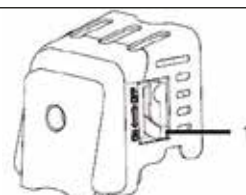

Fig.9
4. Starting a cold engine: set the choke lever to close position (Fig.9).
6. Push choke lever down (Fig.9) (Note: excessive cranking with choke lever will cause flooding engine making it difficult to start).